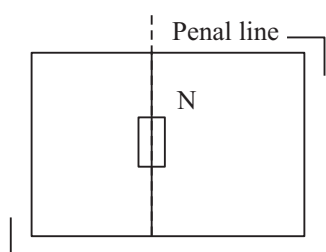
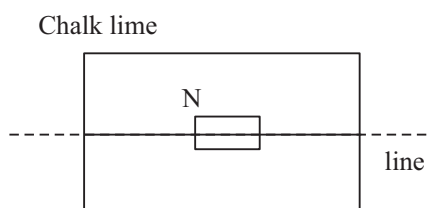

Fig. 28.3
Fig. 28.4
- (iii) Draw a line in pencil through the middle of paper along the short edge for performing the I part of experiment i.e. N-pole of magnet toward- as shown in Fig. 28.3. For the II part of the experiment line will have to be drawn parallel to long edge as shown in Fig. 28.4.
- (vi) Place the drawing board such that the line on paper in pencil is parallel to the line drawn in chalk on the table, as shown in two cases in Figures 28.3 and 28.4.
- (i) After placing the magnet as shown in Fig. 28.3 mark the boundary of board in chalk, so that its position is not displaced during the experiment. If at all it accidentally gets displaced, it can be put back in its original position.
- (i) For drawing the magnetic field in this case and locating neutral points place the drawing board with pencil line on paper parallel to long edge of board, along the N-S line of earth, as shown in the Fig. 28.4.